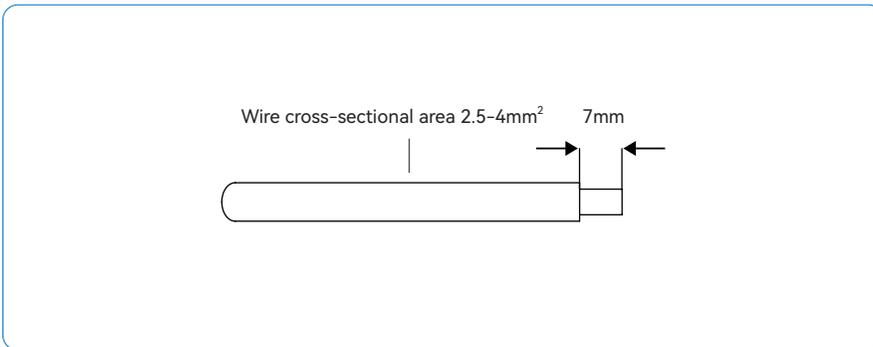

Figure 5-5
2) Peel off the DC cable insulation sleeve for 7 mm, as shown in Figure 5-5